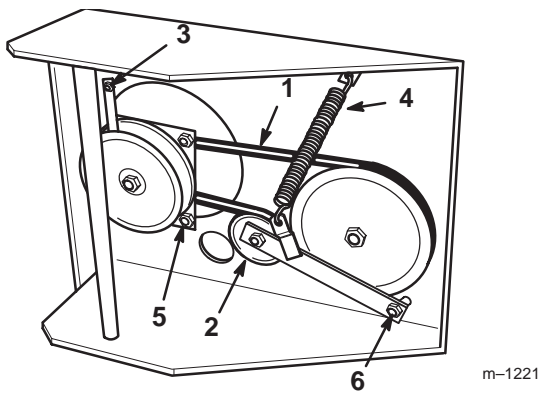

Figure 36
4. Remove left front engine mounting bolt securing clutch retainer to frame (Fig. 36). Unhook retainer from clutch and remove retainer.
5. Unhook tension spring from side of frame (Fig. 36).
8. Torque pivot bolt to 35-40 ft.-lb. (47-54 N.m). Install tension spring between idler arm and frame bracket (Fig. 36).